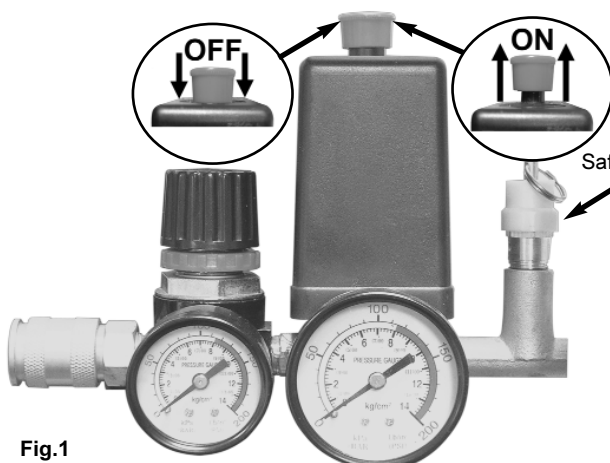

Fig.1
- 4.1. Make sure the main switch (fig.1) is in the "Off" position.
- 4.2. Plug the lead into mains supply and start the compressor by pulling the main switch to "On" (fig.1).
- 4.4. To stop the compressor, press the main switch to 'off' (fig.1). The compressed air inside the compressor head will flow out, making the restart easier and preventing the motor from being damaged. **DO NOT**, other than in an emergency, stop the compressor by switching off the mains socket, or by pulling the plug out, as the pressure relief will not occur and motor damage may result upon restart.